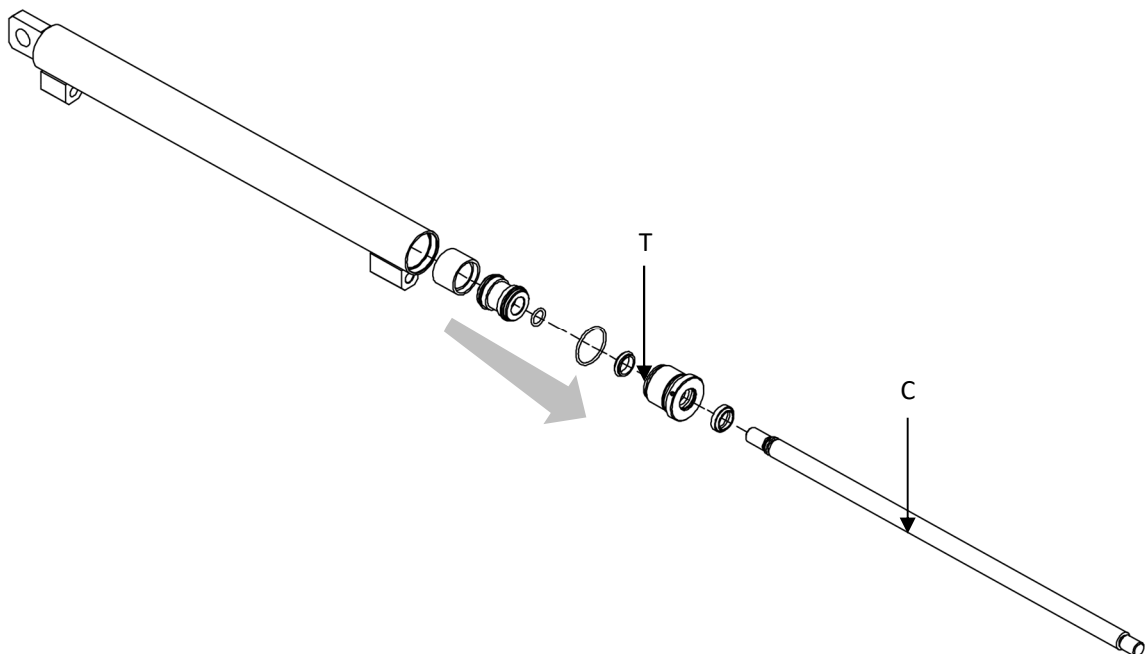

Figure 30
9. For reference, see *Figure 30*.